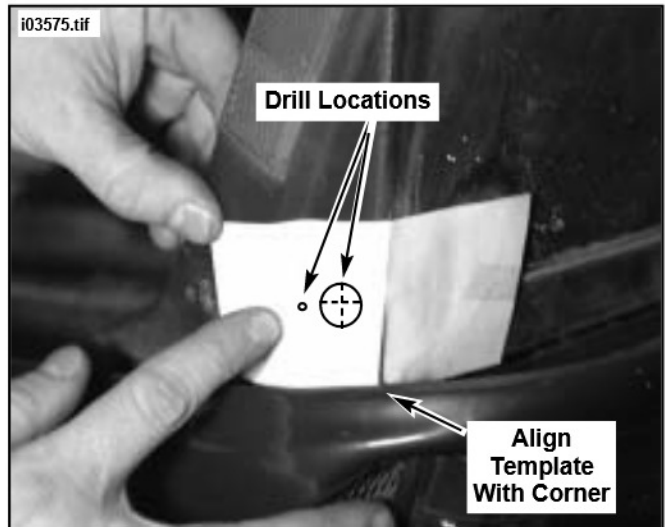

Figure 7. Proper Drill Template Orientation
- c. See Figure 7. Position and tape the template marked "**RIGHT**" over right side of license plate bracket with template oriented as shown.